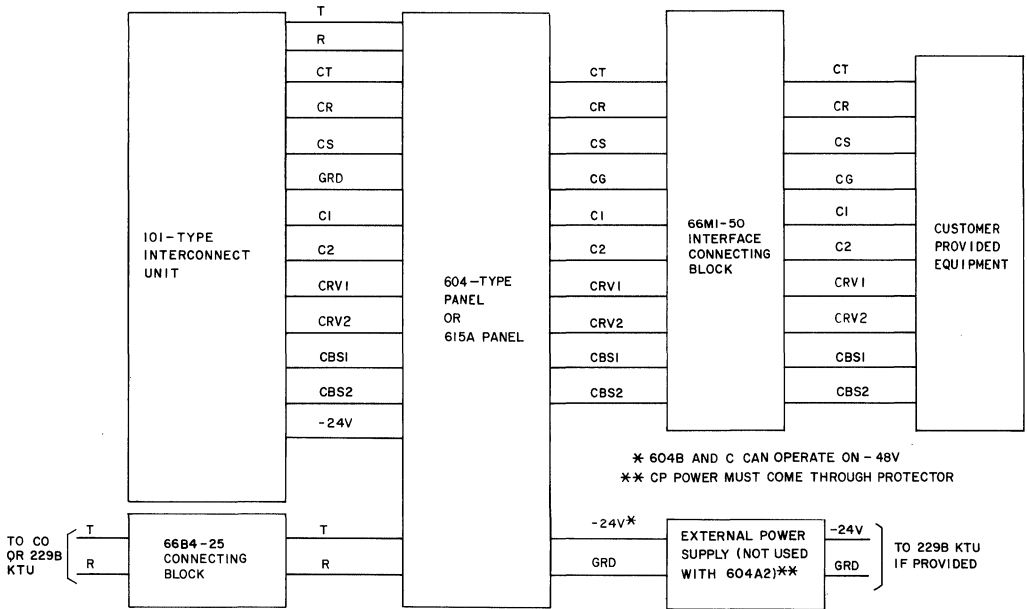

Fig. 12—Block Diagram—PCA CDH Using 604-Type or 615A Panel
604-Type Panel (Fig. 12 and Tables C, D, E, F, I, K and L)
615A Panel (Fig. 12 and Tables G, H, I, and M)
3.24 When voltage protection is required, the KS-20944 protector must be mounted externally and wired to the power supply terminals of the 615A or 604-type panel (Fig. 12). Refer to Section 463-300-109 for connections to multiple installations.